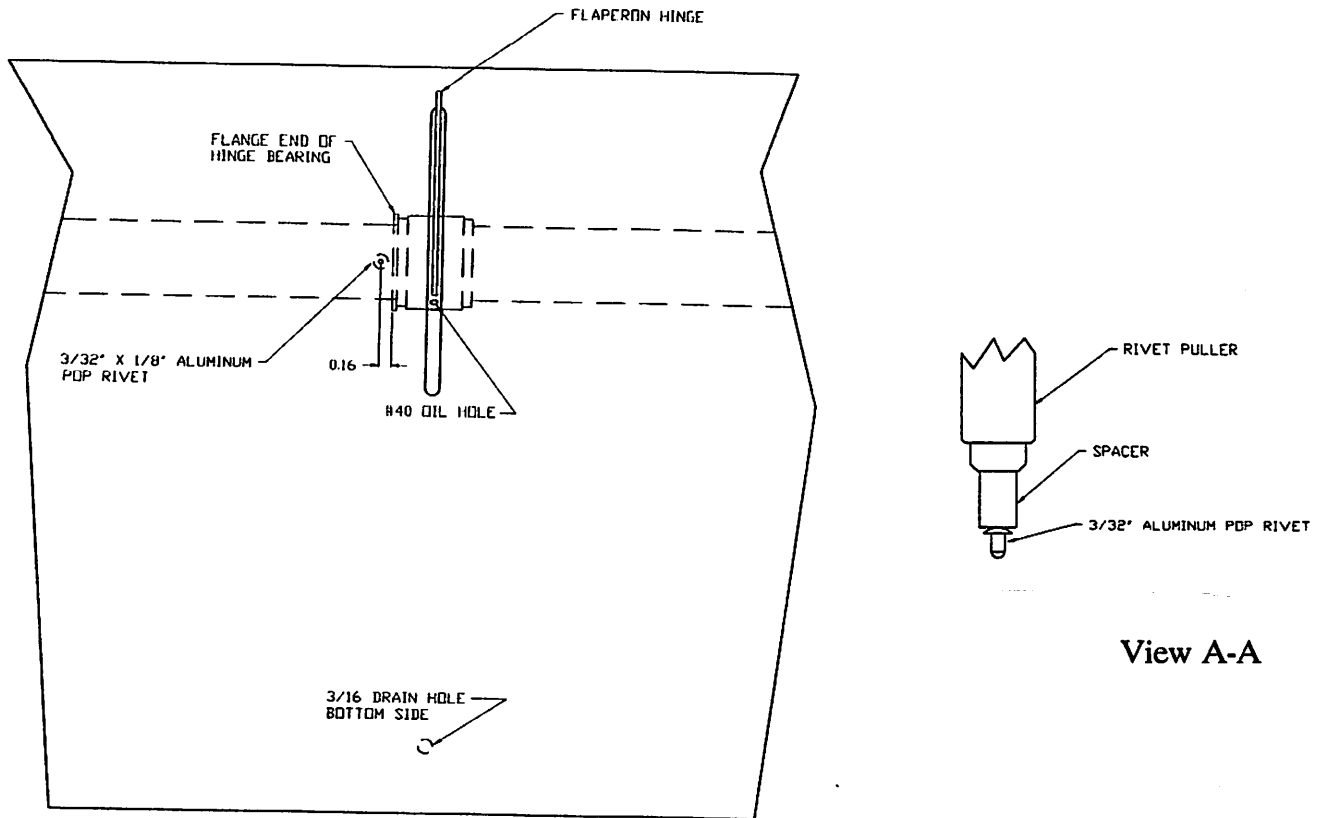

Fig. 2 (Model IV, IV-1200, and Speedster)
**INSTRUCTIONS:** Make sure the bearing is centered into the hinge bushing. Model I,II & III owners use Fig.-1. Drill and rivet two 3/32"x1/8" Alum. rivets through the top skin and into the flaperon torque tube 1/4" out board of each hinge opening. Model IV, Model IV-1200 & Speedster owners, determine which side of the hinge that the bearing flange is on (Fig. 2). Drill a hole approx 1/4" out board of the hinge flange in the bottom skin, large enough for a 3/32" rivet, head and all (the end of the hinge bearing extends approximately 1/2" to each side of the flaperon hing). Then drill a 3/32" hole into the flaperon torque tube approximately 3/16" outboard of the bearing. Using a short piece of 1/8" or less I.D. tubing as a spacer on the rivet pull shaft (view A-A), rivet a 3/32"x1/8" Alum. rivet into the flaperon torque tube. Creating these "stops" will hold the bearings in place, and open an extra drain hole for the hinge area.